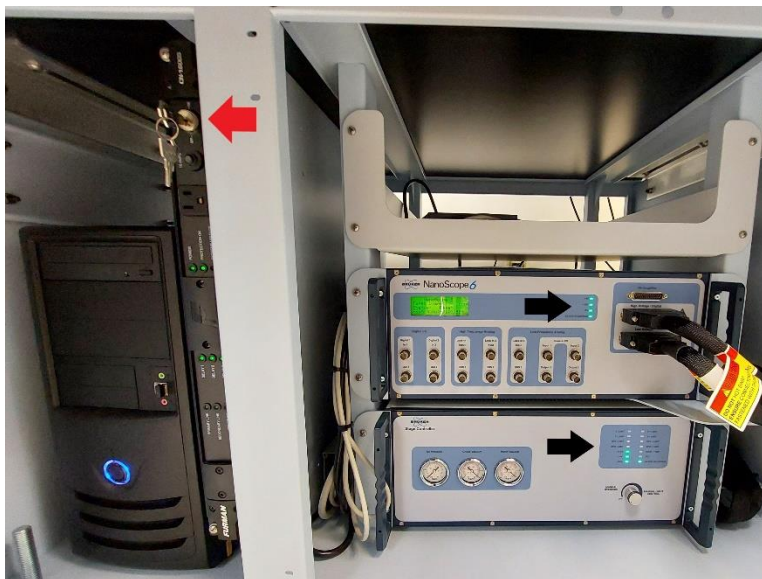

Figure 1 Workstation Console Cabinet
1. To begin start-up sequence, rotate the power conditioner's control Switch 180 degrees clockwise. (Red Arrow Figure 1)
2. Wait approximately 2 minutes for power start-up sequence to complete. The sequence is completed when the indicator panel lights of both control boxes are illuminated. (Black Arrows Figure 1)